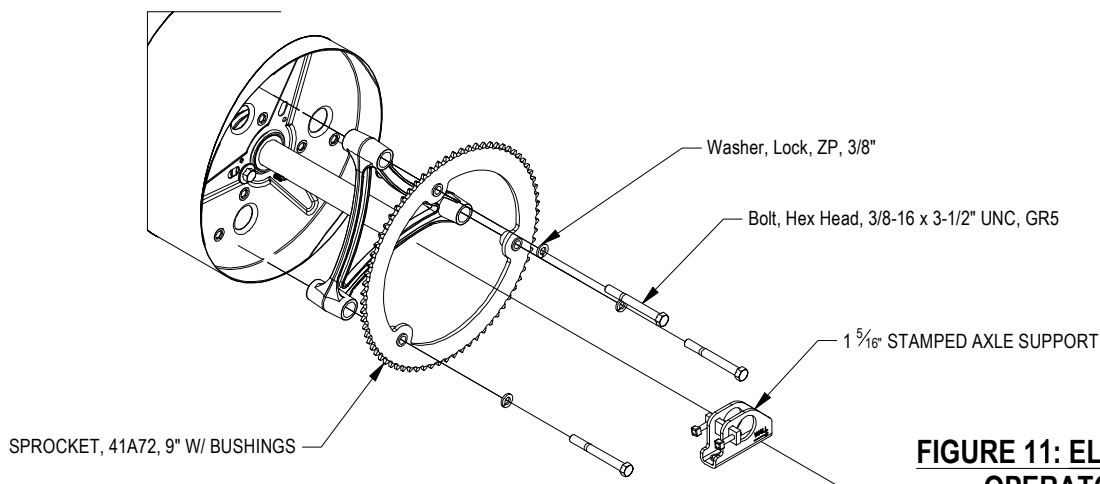

FIGURE 11: ELECTRIC OPERATOR
- ▶ Attach Support Spacer and Sprocket to drum using (3) $\frac{3}{8}$ " lock washers and $\frac{3}{8}$ -16 x 3- $\frac{1}{2}$ " Hex bolts.
- ▶ Tighten $\frac{3}{8}$ " - 16 square head set screws when in place. See Figures 11.